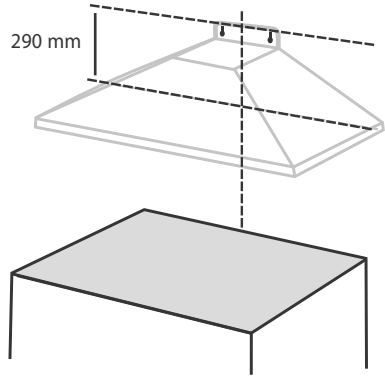

Fig.5 Determining location of the two fixing "keyholes"
- 4 Determine location of the fixing "keyholes" on the wall. The hood is secured to the wall by two "keyholes" located above the motor behind the air exit opening. From the point where the horizontal and vertical lines drawn earlier intercept, use a spirit level and pencil and draw another horizontal line 290mm above the first horizontal line (ensuring that the line can easily be erased or the line will be hidden after installation) as shown in Fig.5. This now indicates where the top of the "fixing keyholes" are. Where the vertical line meets the top horizontal line (just drawn), measure and mark both sides of the vertical line, showing where to drill.